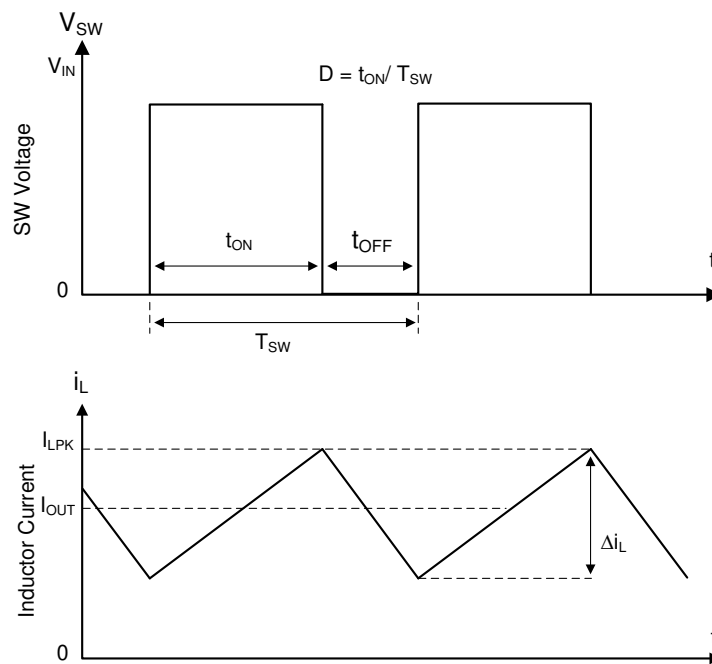

Figure 7-1. SW Node and Inductor Current Waveforms in Continuous Conduction Mode (CCM)
The following operation description of the LMR70410-Q1 refers to the Functional Block Diagram and to the waveforms in Figure 7-1. LMR70410-Q1 is a step-down, synchronous buck regulator with integrated high-side (HS) and low-side (LS) switches (synchronous rectifier). The LMR70410-Q1 supplies a regulated output voltage by turning on the HS and LS NMOS switches with controlled duty cycle. During high-side switch ON time, the SW pin voltage swings up to approximately V_{IN} , and the inductor current i_L increase with linear slope $(V_{IN} - V_{OUT}) / L$. When the HS switch is turned off by the control logic, the LS switch is turned on after an anti-shoot-through dead time. Inductor current discharges through the low-side switch with a slope of $-V_{OUT} / L$. The control parameter of a buck converter is defined as Duty Cycle $D = t_{ON} / T_{SW}$, where t_{ON} is the high-side switch ON time and T_{SW} is the switching period. The regulator control loop maintains a constant output voltage by adjusting the duty cycle D . In an ideal buck converter, where losses are ignored, D is proportional to the output voltage and inversely proportional to the input voltage: $D = V_{OUT} / V_{IN}$.